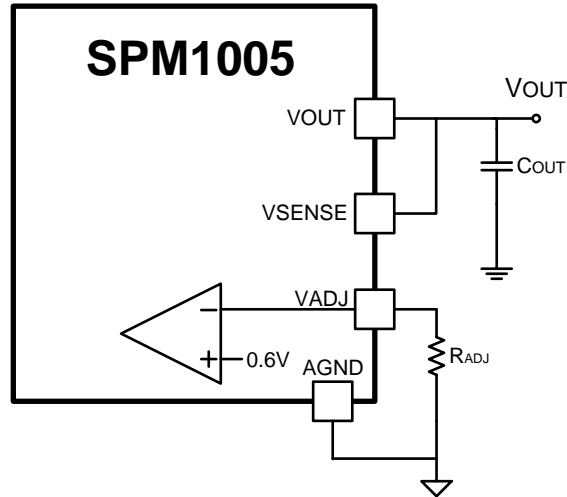

Fig. 15 Output Voltage Setting for SPM1005-Z
The output voltage of SPM1005-Z can be adjusted from 0.6V to 3.6V using an external resistor between VADJ pin and AGND pin, as shown in Fig. 15. The required resistor value  $R_{ADJ}$  can be calculated using equation (1).